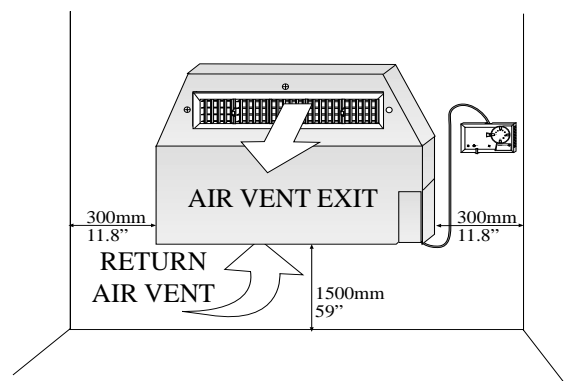

Fig. 7
- The indoor unit may be installed either hanging from the ceiling or resting on a hard surface (concrete or other). Refer to Fig. 7 for the dimensions of the indoor unit.